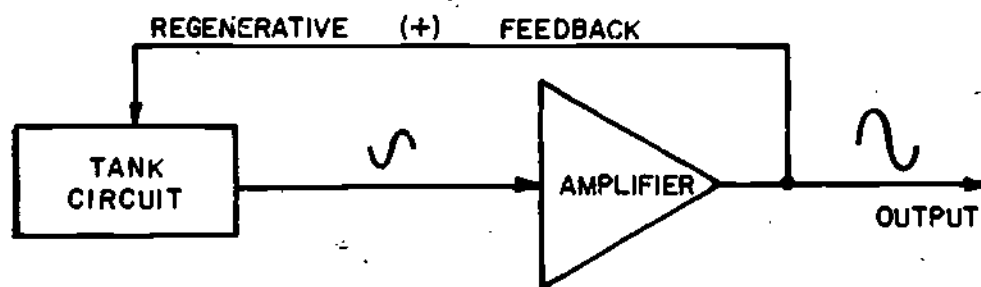

Figure 1
- ① In Module 22 you learned about basic oscillators, including various types, and the frequencies at which they operate. You also learned about oscillator circuitry. The basic requirements for LC oscillator circuits are shown pictorially in Figure 1.
The ideas which are reflected pictorially in Figure 1 are basic to LC oscillator circuits. An LC oscillator has a tank circuit, an amplifier circuit, and provisions for regenerative feedback. The primary function of the tank circuit is to determine the oscillator frequency. The tank circuit may also provide the proper phase shift. This will be discussed in greater detail in subsequent frames. The purpose of the amplifier section is to provide the necessary gain and feedback voltage to sustain oscillations in the tank circuit.